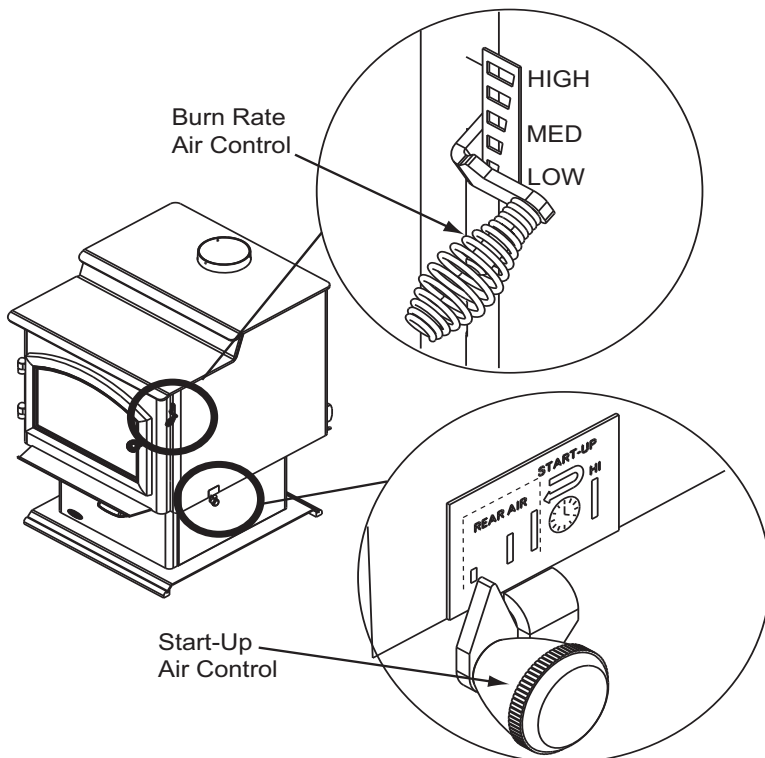

Figure 11.1
The next stage of burning, the secondary stage, is the period when the wood gives off flammable gases which burn above the fuel with bright flames. During this stage of burning it is very important that the flames be maintained and not allowed to go out. This will ensure the cleanest possible fire. If the flames tend to go out, it is set too low for your burning conditions. The air control located at the upper right hand corner is used to adjust for burn rates. This is called the Burn Rate Air Control (Figure 11.1).
This air supply enters at the upper front of the firebox, near the top of the glass door. This preheated air supplies the necessary fresh oxygen to mix with the unburned gases, helping to create second, third and fourth combustions. This air is regulated by the Burn Rate Air Control. When the control is moved all the way up it is on the High setting and when moved all the way down it is on the Low setting (Figure 11.1).
- Then activate the ACC timer system by pushing the knob all the back toward the appliance to “HI” then pull forwards towards the front of the appliance until the knob stops (**Figure 11.1 and Figure 11.2 on page 11**).